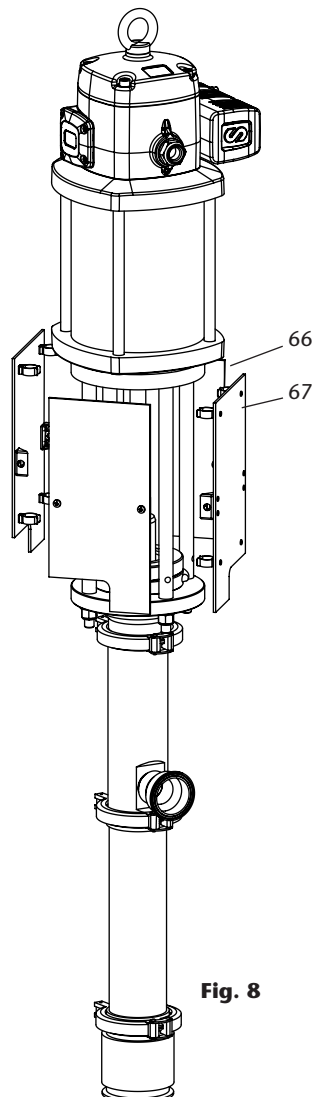

Fig. 8
1. Separate the guards (fig. 8).
2. Remove the spring clip (53) which through the air motor piston rod (51). Lift the coupling cover (79) and remove the couplings (80).
3. Unscrew the bolts (64) and remove air motor.
4. Unscrew the bolts (60) and remove lower flange (58).
5. Remove and replace the O-ring (57), slide rings (55) and U-seal (54).
1. Retire los guardas protectoras (fig. 8).
3. Remove the guard from the air motor (66, 67) (fig. 8).